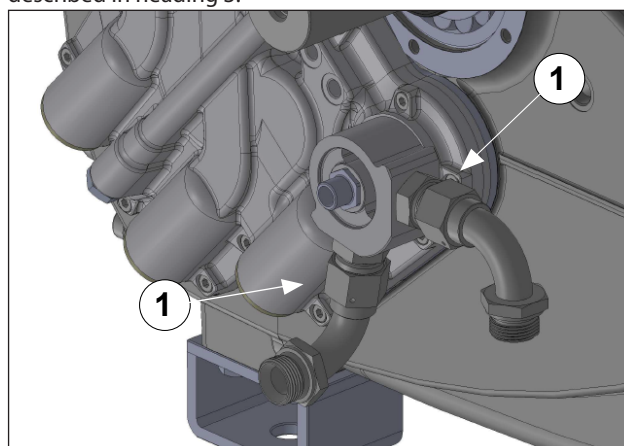

Fig. 131
Screw the two connection bends to the exchanger tubes (pos. ①, Fig. 131) and tighten them with a torque wrench as described in heading 3.